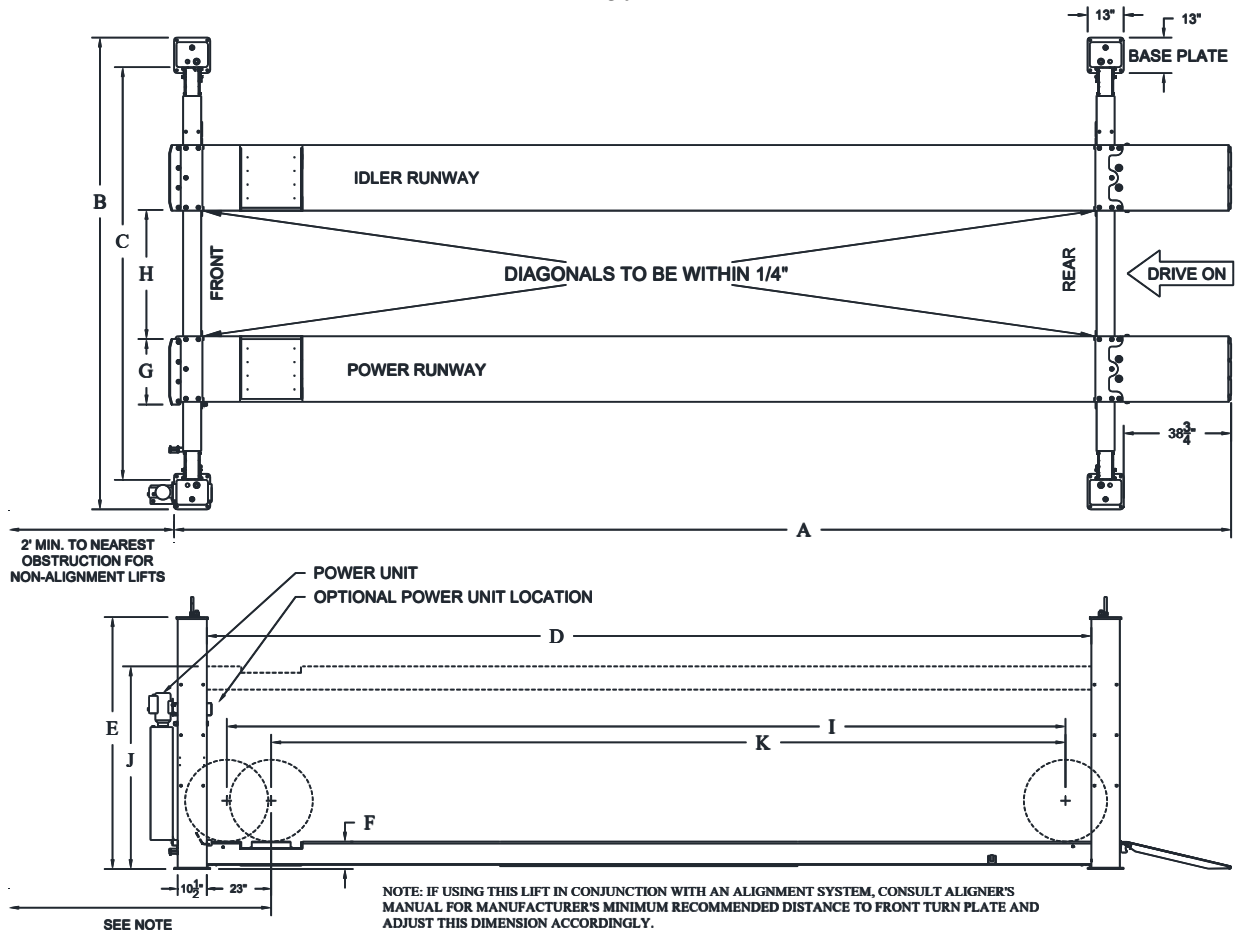
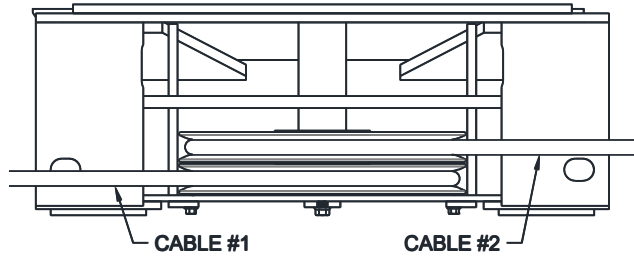

Fig 1 – General Specifications and Service Bay Layout
Fig 4 – Power Runway 2-Stack (front view)
- Lay out the service bay according to the architect's plans or owners instructions (**see Fig 1**). Be certain that the proper conditions exist, see page 3.
- 7) Attach both cross beams to the runways (**Fig. 4**) using 3/4"-16, 2.5" Length Steel Hex Cap Screws, ZC-PLTD, a 3/4" screw size washer on the bolt head side, and nut side. secure with a 3/4"-16 GRADE 8 STEEL NYLON-INSERT LOCKNUT. Position the power runway on top of the cross rail and align the slots with the holes. The idler runway can be installed using the outer or inner sets of cross beam holes, see "Width Between Runways" dimension in Fig. 1. Do not torque bolts yet.